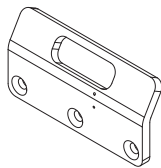

Fig. 3
- Restraints that have a lip deflector with three holes (Fig. 3), will continue to use a bellow assembly.